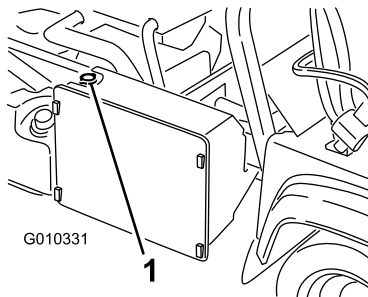

Figure 70
3. Remove the radiator cap (Figure 70).
7. Top off the radiator and install the cap (Figure 70).